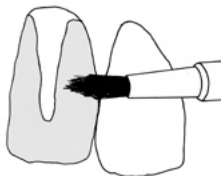

Fig. 2
3. Paint the mixed Etch-Free solution onto the roughened porcelain. If some solution overruns the exposed metal, it will cause no harm and need not be removed. (Fig. 2)